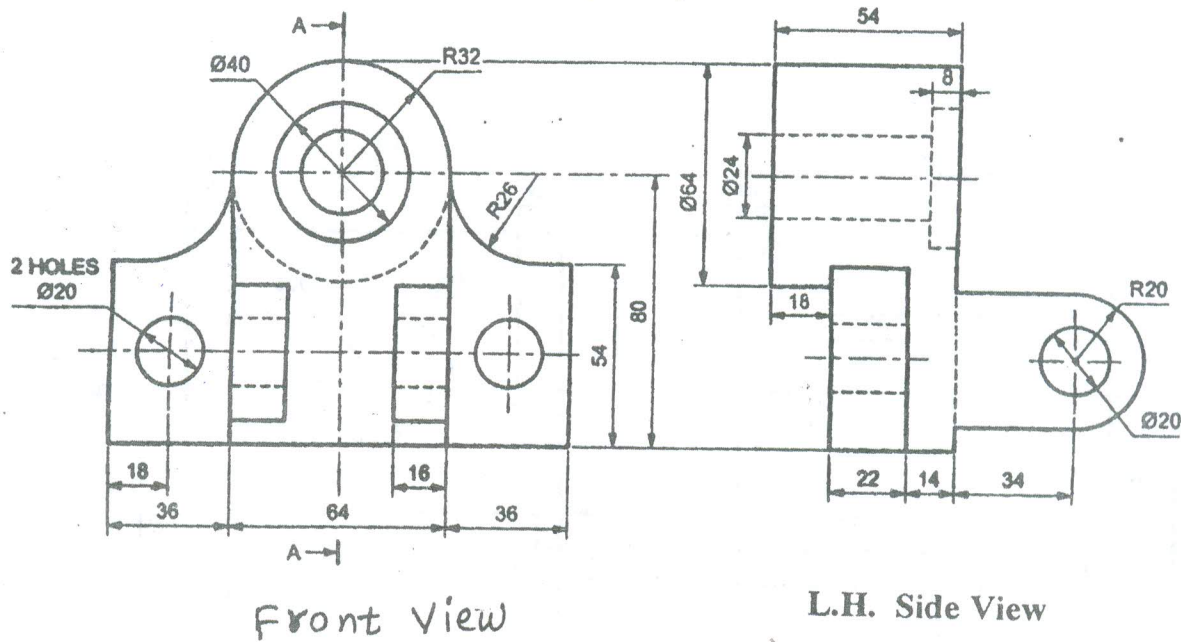

Fig. 8
10. Fig. 8 shows the Front View and L.H. Side View of a machine part. Draw the following views by First Angle Method of Projection :